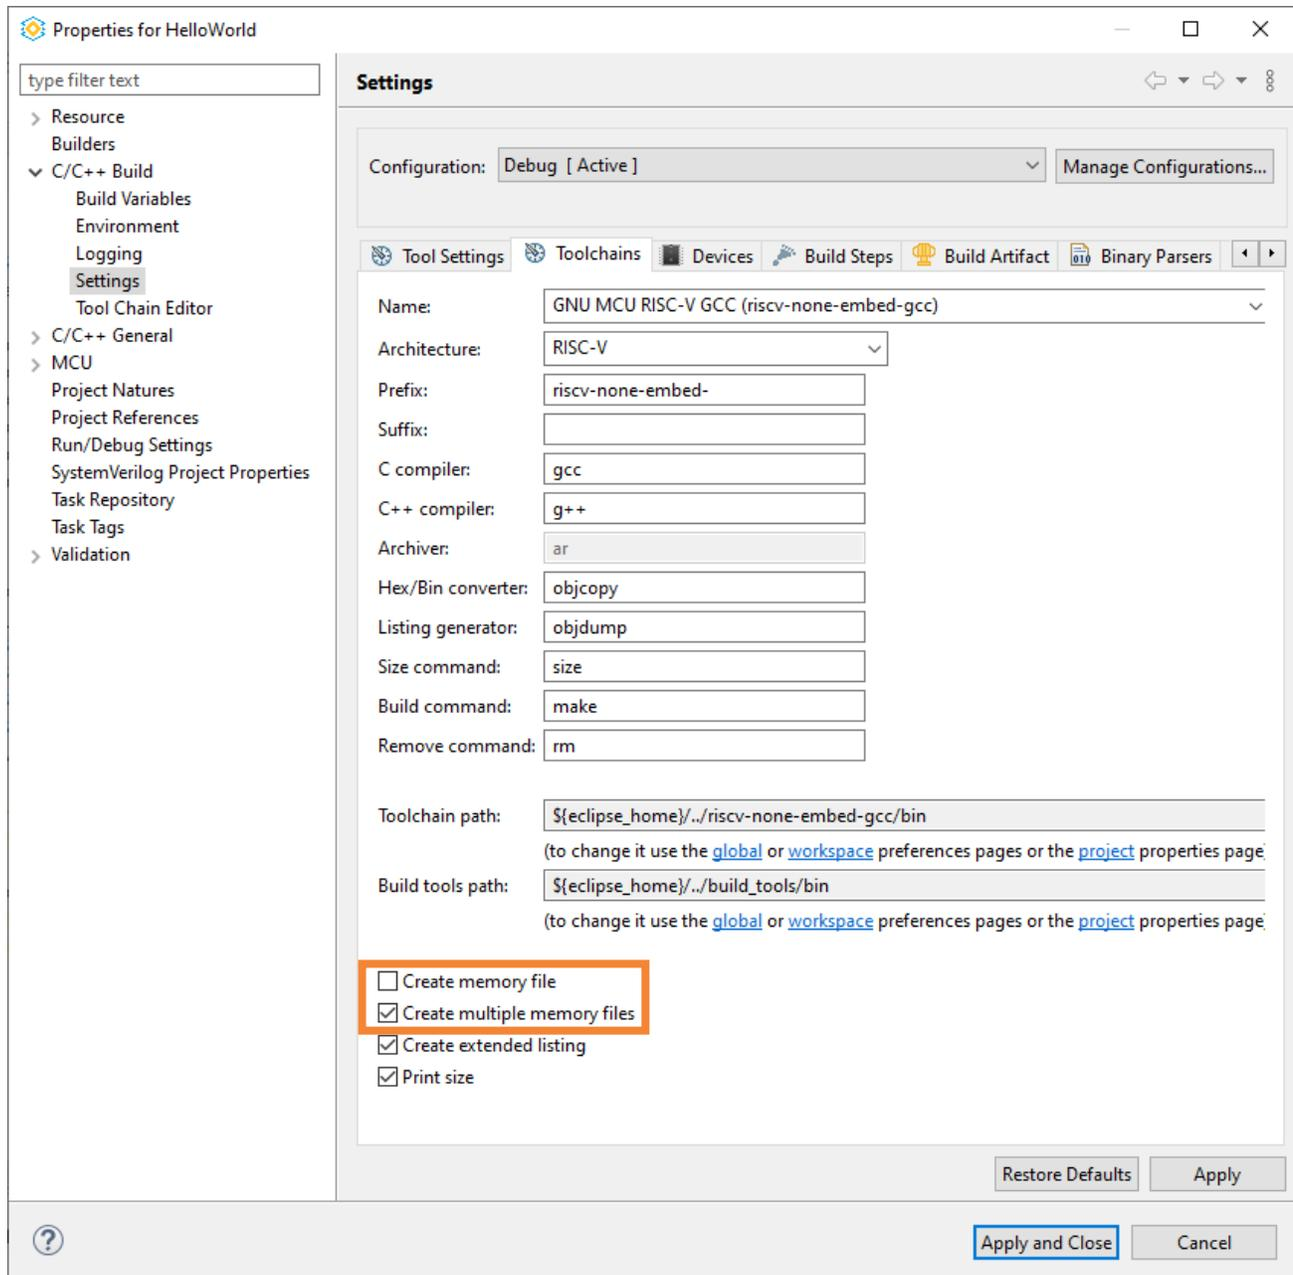

Figure A. 4. Toolchains Tab of C/C++ Build Settings
3. Select **Settings of C/C++ Build** category from the left pane. Select the **Toolchains** tab (Figure A. 4).